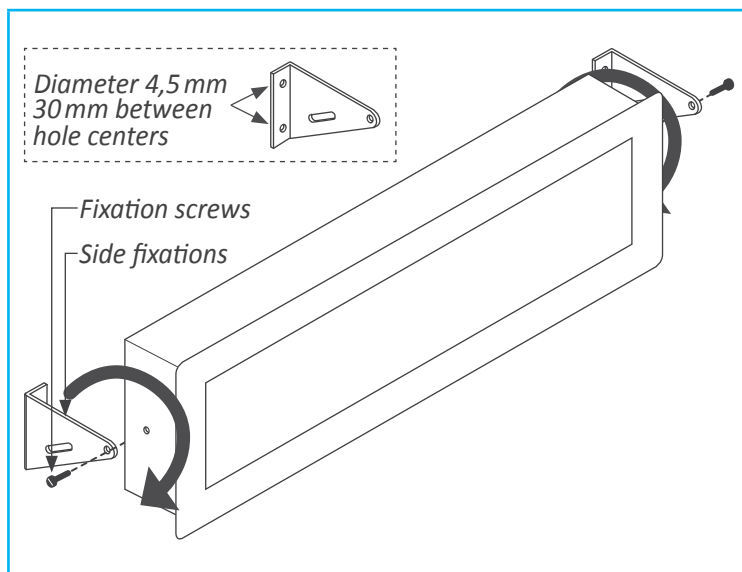

Figure 10 - Wall mount
- Wall mount. Mount the side fixations against the wall, as shown (see Figure 10). Each fixation has 2 holes with 4.5 mm diameter and a separation between hole centers of 30 mm. Once the side fixations are secured against the wall, place the instrument and press the fixation screws slightly. Tilt the instrument to the desired viewing angle and firmly screw the fixation screws.